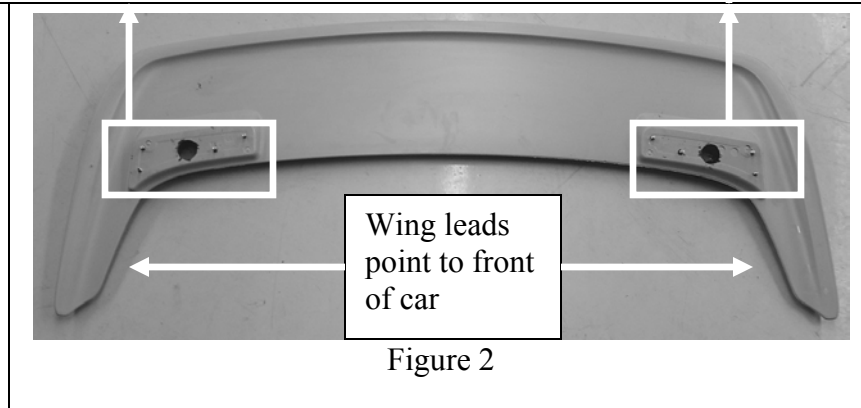

Figure 2
2. Figure 2 shows the wing as it is shipped, with the studs installed. The studs will go into the holes you will drill in the deck lid.